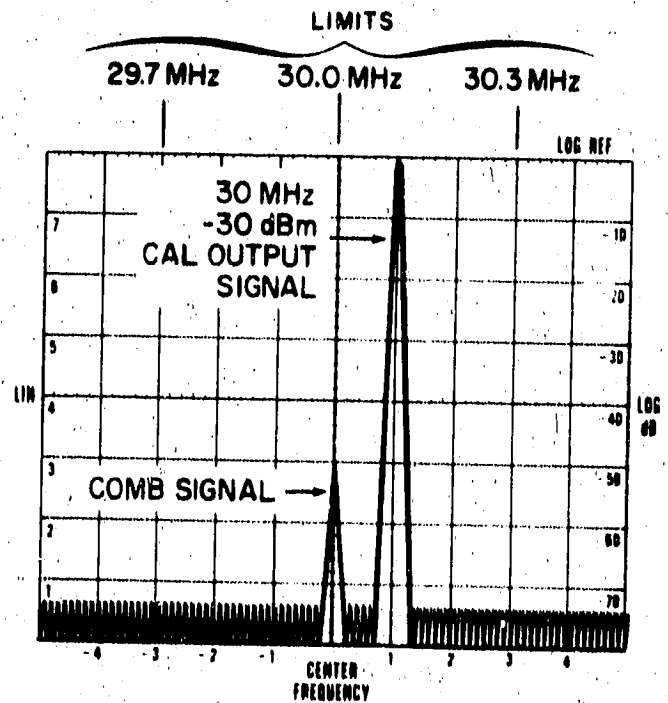

Figure 5-20. Calibrator Frequency Measurement
- Connect CAL OUTPUT to BNC Tee and display calibrator signal simultaneously with comb signal. The calibrator signal should be between 29.7 MHz and 30.3 MHz (between -3 and +3 on display). See Figure 5-20.